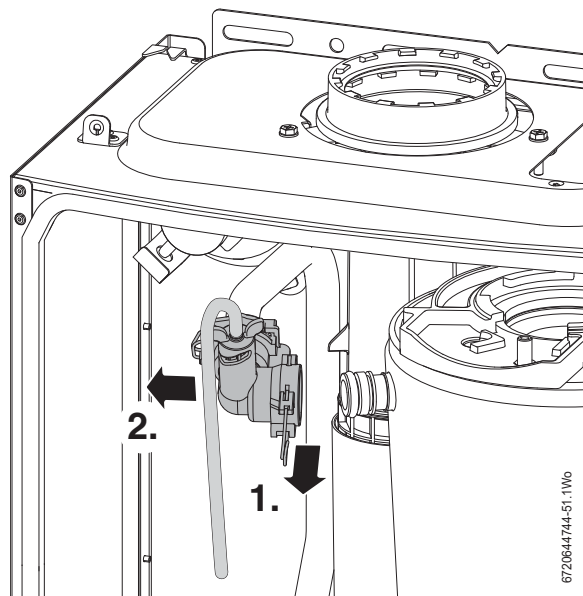

Fig. 84 Flow pipe removal
- 1. Refer to figure 84, remove the clip from the elbow on the flow pipe.